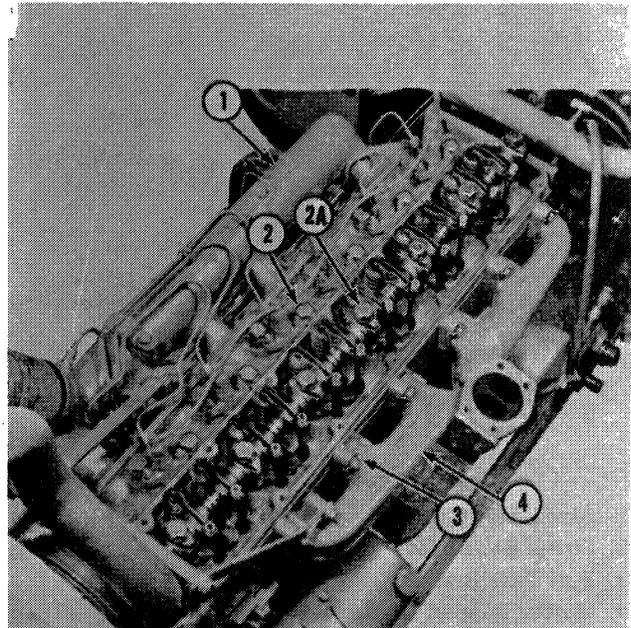

Figure 7
17. Visually check the push rods for straightness by rotating them with the valve closed. Loosen the rocker arm shaft bolts evenly and remove the assembly from the tractor, Figure 7.